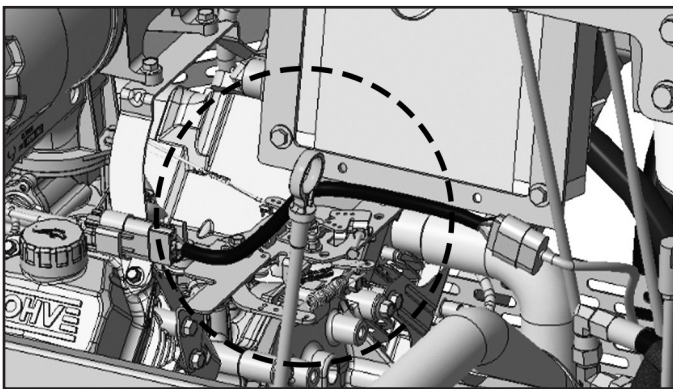

Figure 1: Oil dipstick location
3. Before starting the ABI Force make sure to check the engine oil and hydraulic system levels on the unit. The engine oil dipstick is located inside the knee pad of the ABI Force. Refer to **Figure 1** for reference or see to the maintenance section of the REHLKO Engine Manual for information. Engines are factory filled with SAE 30w oil to facilitate break in during the first 25 hours of operation.